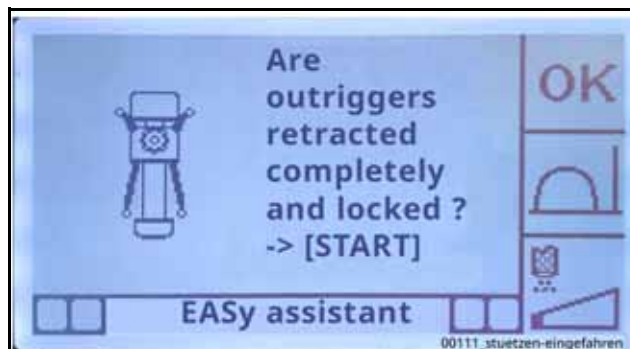

Fig. 536
- Ensure that the outriggers are in the transport position and locked (**Fig. 536**).